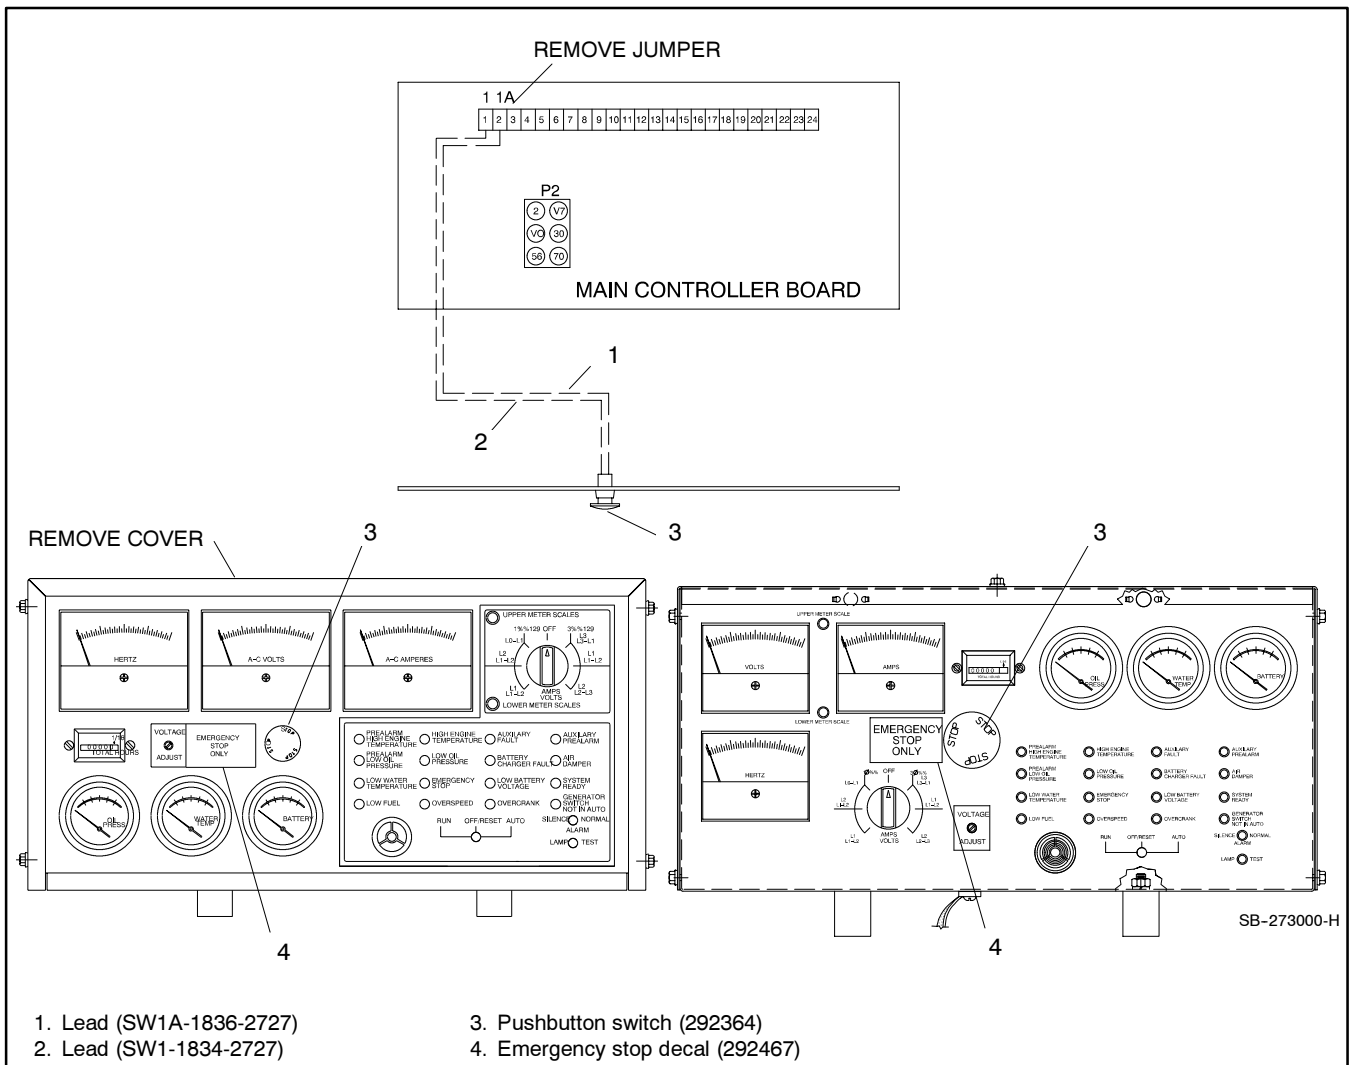

Figure 1 Emergency Stop Kit
5. Remove cover from the hole in the controller face panel. See Figure 1.